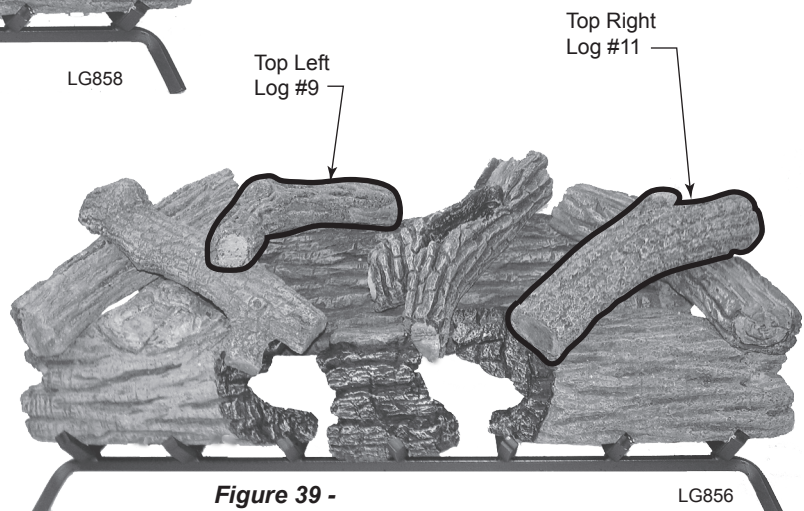

Figure 39 -
- 10. Install top left log #9. *Figure 39*
- 11. Install top right log #11. *Figure 39*